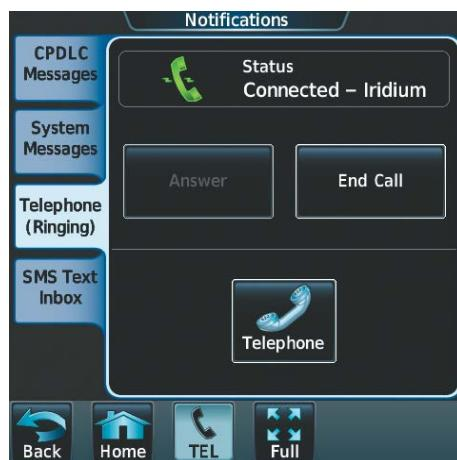

Figure 8-47 Call Answered
- 2) Touch the **Answer** Button. The call is now connected as indicated in Figure 8-47. Touching the **Ignore** Button extinguishes the new call annunciation and the call remains disconnected.